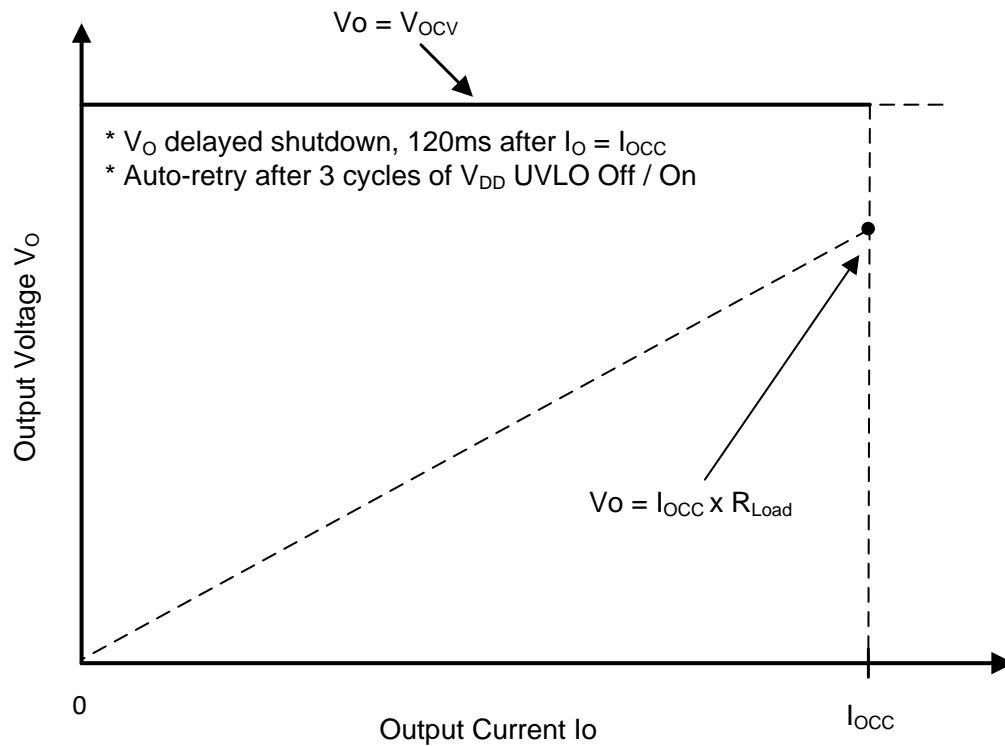
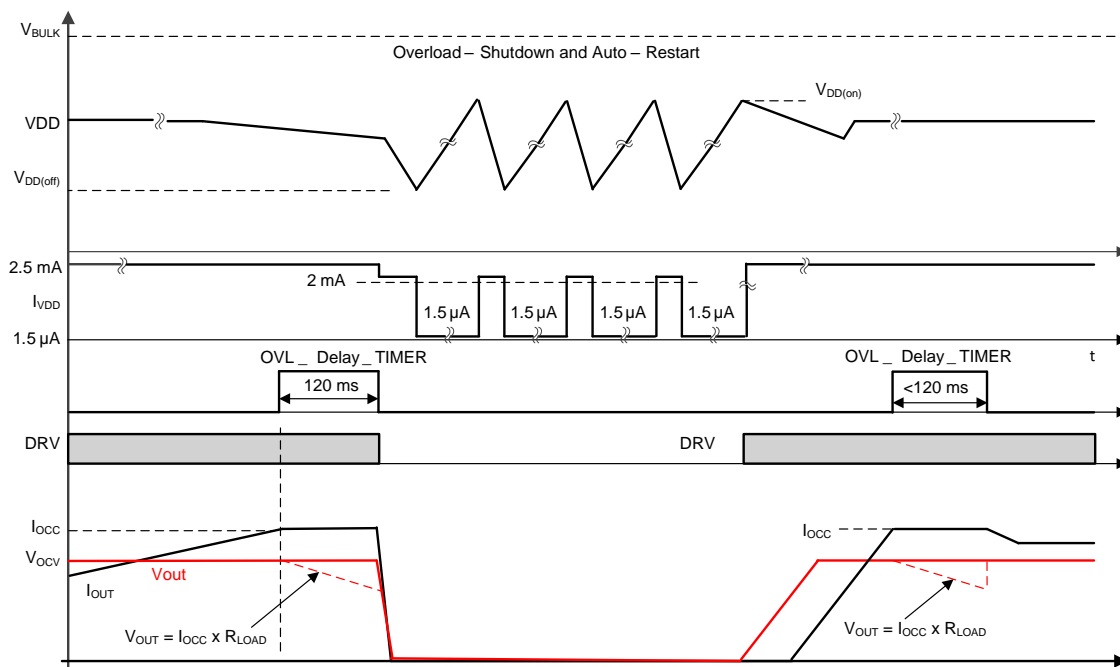

Figure 14. Typical Target Output V-I Characteristics
Figure 15. Output Delayed Shutdown Timing
As shown in Figure 14 below, CV mode operation is from $I_O = 0$ to $< I_{OCC}$; at $I_O = I_{OCC}$, the operation enters constant current limit mode and V_O starts to drop as the load resistance becomes further lower while I_O is maintained at I_{OCC} for a time interval specified by t_{OVL_TIME} typically 120 ms then DRV stops to achieve converter output delayed shutdown. During the 120-ms timing interval, if load I_O reduces to $< I_{OCC}$, the timer will be reset and no shutdown will occur. The V-I curve corresponding to the operation is shown in Figure 14, and the delayed shutdown timing diagram is shown in Figure 15. Note (1) The timer t_{OVL_TIME} is triggered whenever I_O reaches I_{OCC} and reset when I_O drops to $< I_{OCC}$ before 120ms-time-out. (2) during 120-ms time interval, when load resistance becomes so low during constant current interval that causes the device VDD to reach its $V_{VDD(off)}$ and then the shutdown will be through VDD undervoltage lockout instead of through Constant Current Limit and Delayed Shutdown. In such a case, the shutdown can happen before 120ms timer out.
The auxiliary winding to secondary winding transformer turns-ratio (N_{AS}) is determined by the lowest target operating output voltage V_{OVL} at current limit and above the $V_{DD(off)}$ of the UCC28742. The output voltage reaches V_{OVL} when output current reaches its limit I_{OCC} ; V_{OVL} is determined by I_{OCC} and the expected minimum load resistance R_{LOAD} at I_{OCC} , *i.e.*, $V_{OVL} = I_{OCC} \times R_{LOAD}$. Note that V_{OVL} can only be maintained within typical 120ms, and after that time, the output voltage will enter the cycle of shutdown and auto-start retry, as described in Constant Current Limit and Delayed Shutdown, and shown in Figure 14 and Figure 15. There is additional energy supplied to VDD from the transformer leakage inductance energy which may allow a slightly lower turns-ratio to be used in a design. The N_{AS} is then determined by the below equation.